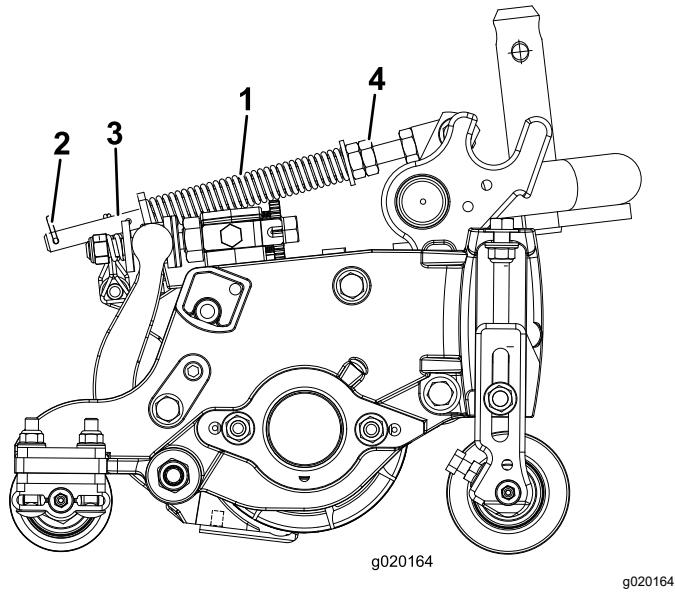

Figure 12
The turf compensation spring (Figure 12) transfers weight from the front to the rear roller. This helps to reduce a wave pattern in the turf, also known as marcelling or bobbing.
1. Make sure that the hairpin cotter is installed in the rear hole in the spring rod (Figure 12).
2. Tighten the hex nuts on the front end of the spring rod until the compressed length of the spring (Figure 12) is 12.7 cm (5 inches).